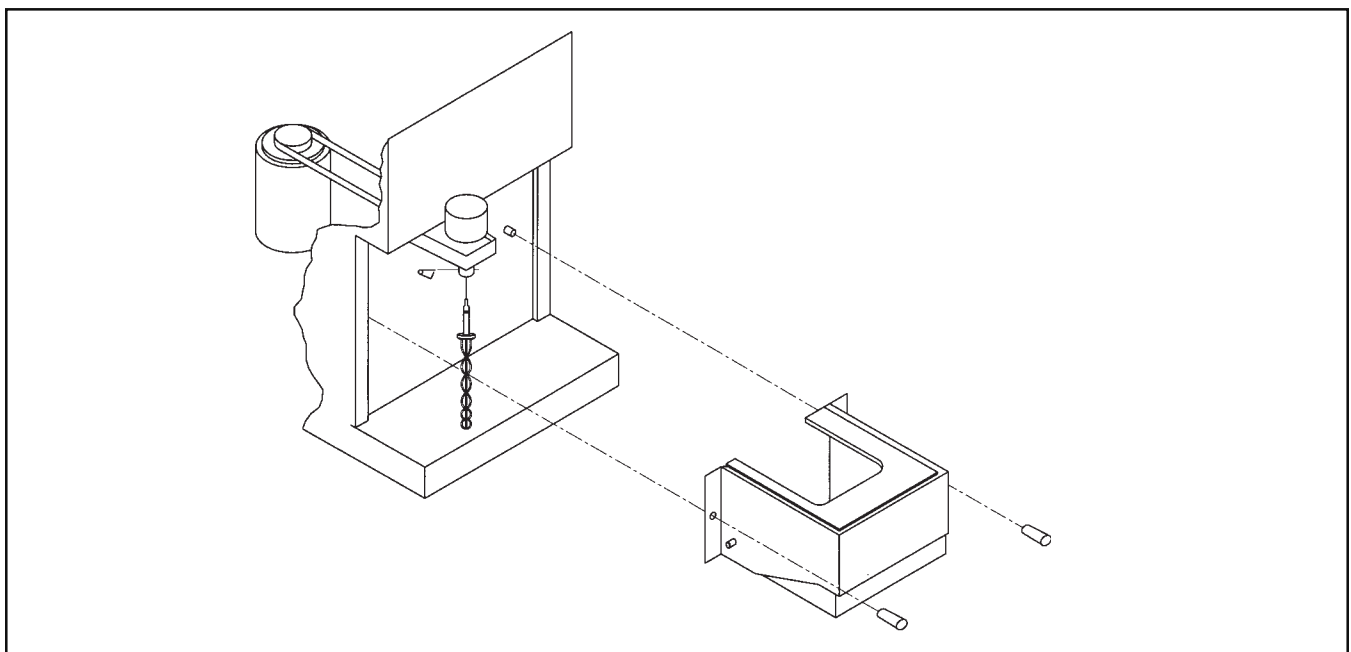

Figure 12. Spinner Assembly
11. On the model 225, you must first remove the spinner guard assembly (Model 225R) by removing the two black knobs and pulling the spinner guard off the freezer. Remove the spinner by removing and pulling spinner down. (Fig.12)